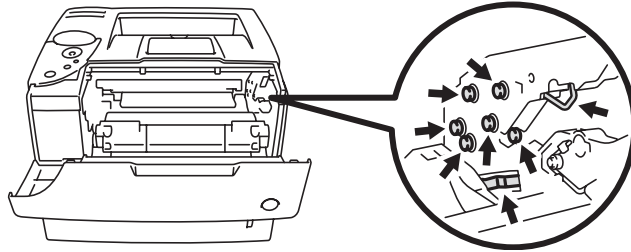

Figure 6-17
- To prevent damage to the printer from static electricity, do not touch the electrodes shown in Figure 6-17.